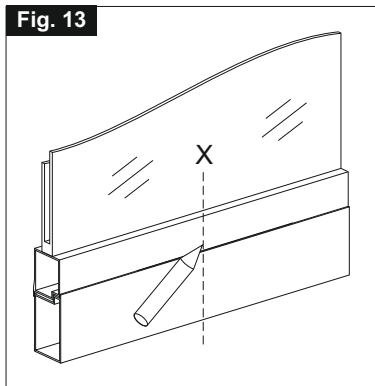

Fig. 14
- 3) **Fig. 14-** Apply the template on the window frame aligning it with the previously drawn centre line "X";